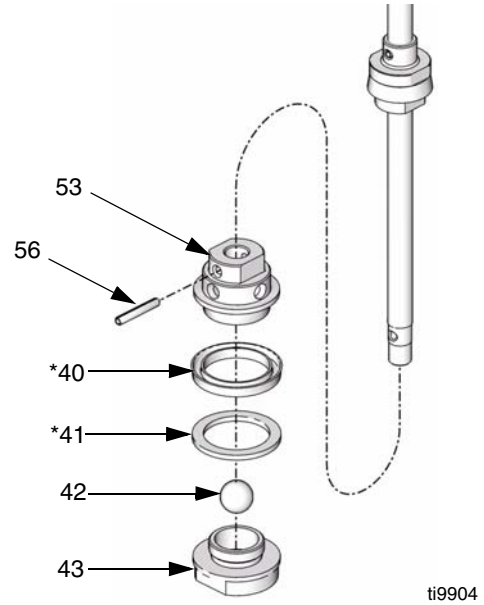

FIG. 19
4. Remove spring pin (56). Remove piston valve (43). Unscrew piston valve (43) from piston housing (53). Remove wear ring (41\*), u-cup (40\*) and ball (42). Inspect all parts for damage. See FIG. 19.